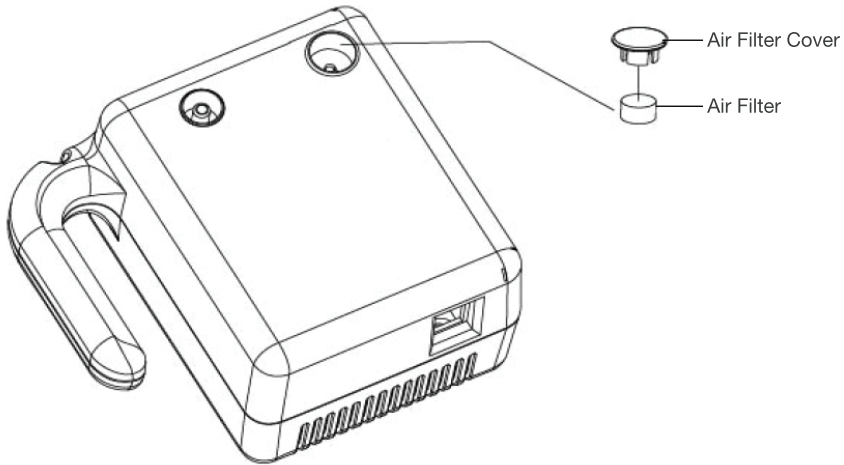

Figure 12
- To replace the air filter, ensure the compressor is turned off. Open the air filter cover, take out the air filter and replace it with a new one. Place the cap back into the socket of the compressor and snap the filter cover back in place (Fig. 12).